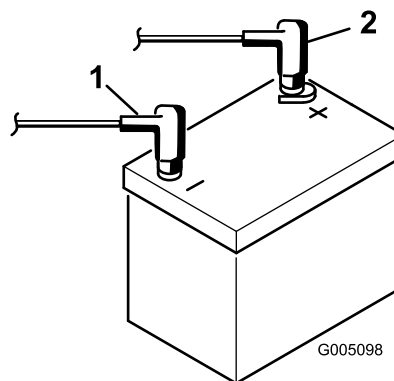

Figure 45
1. Disconnect the negative cable (black) and then the positive cable (red) from the battery (Figure 45).
6. Install the positive cable (red) to the positive (+) terminal and then the negative cable (black) to the negative (-) terminal of the battery (Figure 45) and secure them with the previously removed bolts and nuts. Slide the rubber boot over the positive terminal to prevent a possible short from occurring.